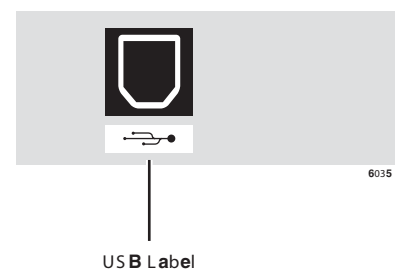

Figure 7-11 USB Label
4. Stick the USB label onto the base, just below the modular cord port (see Figure 7-11).